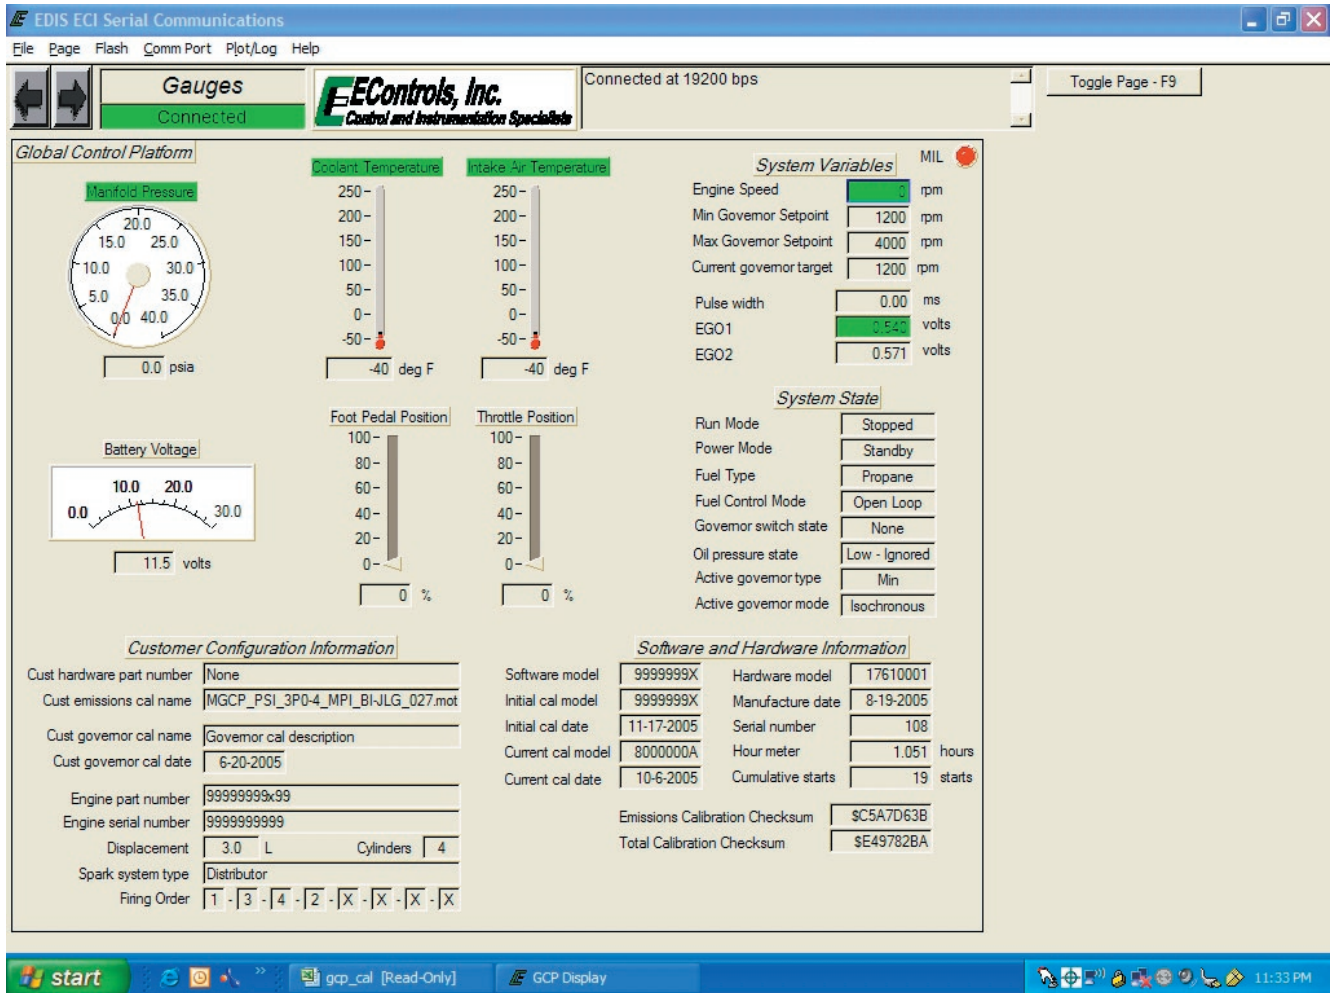

Figure 5: Tagged Variables for Plot/Log
The Plot/Log menu allows the user to graphically plot or numerically log variables that have been tagged for plotting/logging. To plot or log variables, a tag must be assigned to each variable of interest. A variable is tagged for plotting/logging through a single right-mouse click in the variable’s vicinity. Once a variable has been tagged for plotting/logging it is highlighted in green. Figure 5 shows an example of variables that have been tagged. A maximum of twenty (20) variables may be tagged for logging and a maximum of ten (10) variables may be tagged for plotting. The maximum achievable sample frequency/minimum period is dependent on the number of variables tagged.